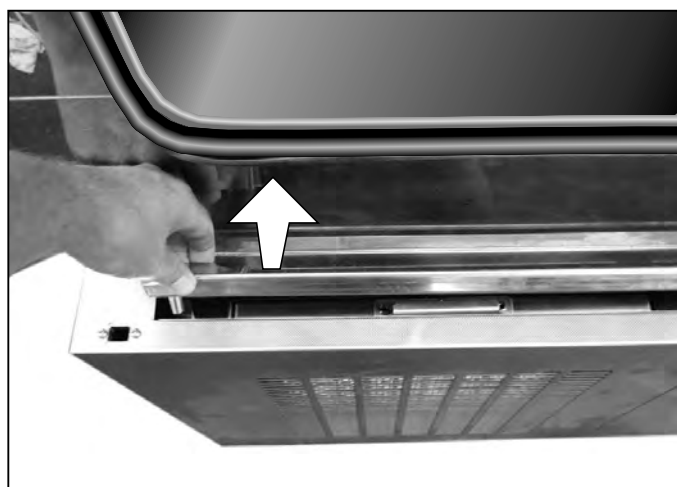

Fig. 41 Removing drip tray
2. Remove and empty the drip tray (Fig. 41).